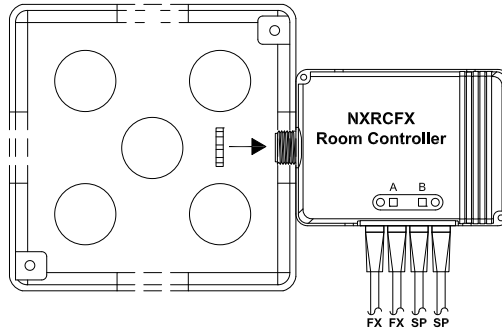

FIGURE 1: NXRCFX ROOM CONTROLLER MOUNTED TO 4x4 Junction Box
2. Mount the Room Controller to the outside of a 1/2" knockout in a 4" square or larger steel electrical junction box using the Room Controller's extended 1/2" chase nipple. Secure to the junction box using the enclosed EMT lock nut. (See Figure 1 below for reference)